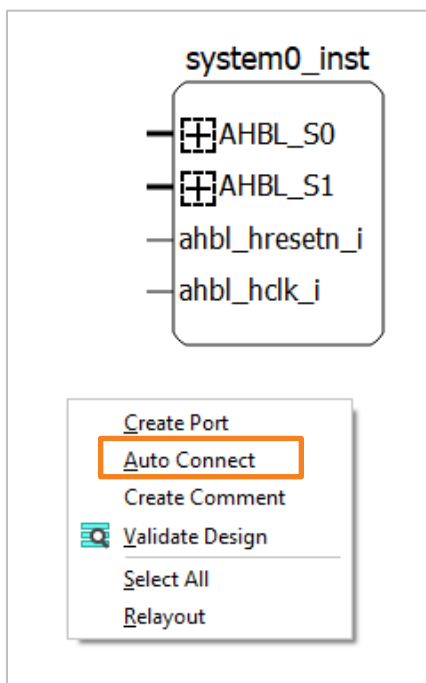

Figure 2.86. Action Menu of Right-clicking on a Blank
1. Right-click on Schematic view and choose **Auto Connect** (Figure 2.86). The Connect Ports dialog appears (Figure 2.87).